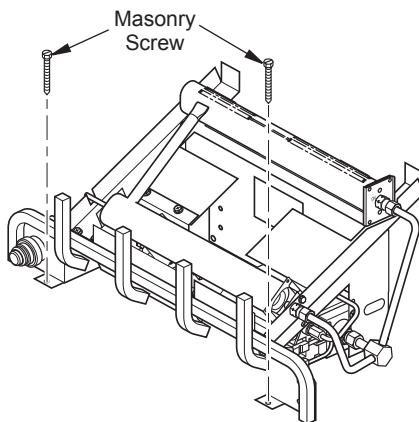

Figure 13 - Attaching Base to Fireplace Floor (Remote-Ready Models Only)
3. Mark screw locations through holes in front panel of base (see Figure 13). If installing in a brick-bottom fireplace, mark screw locations in mortar joint of bricks.
6. Attach base, through holes in front panel of base, to fireplace floor using masonry screws provided in hardware package (see Figure 13).